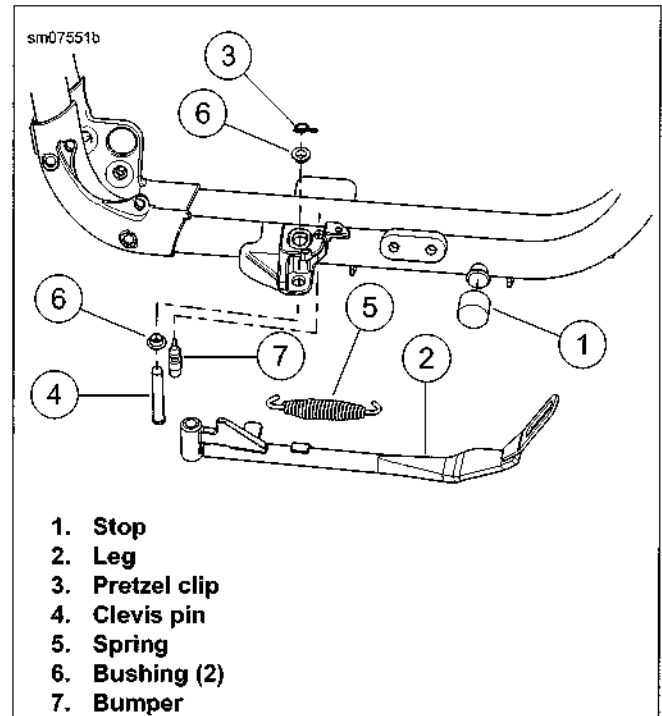

Figure 2-171. Jiffy Stand
2. See Figure 2-171. Remove stop (1).
3. Retract leg (2).
4. Remove pretzel clip (3). Discard pretzel clip.